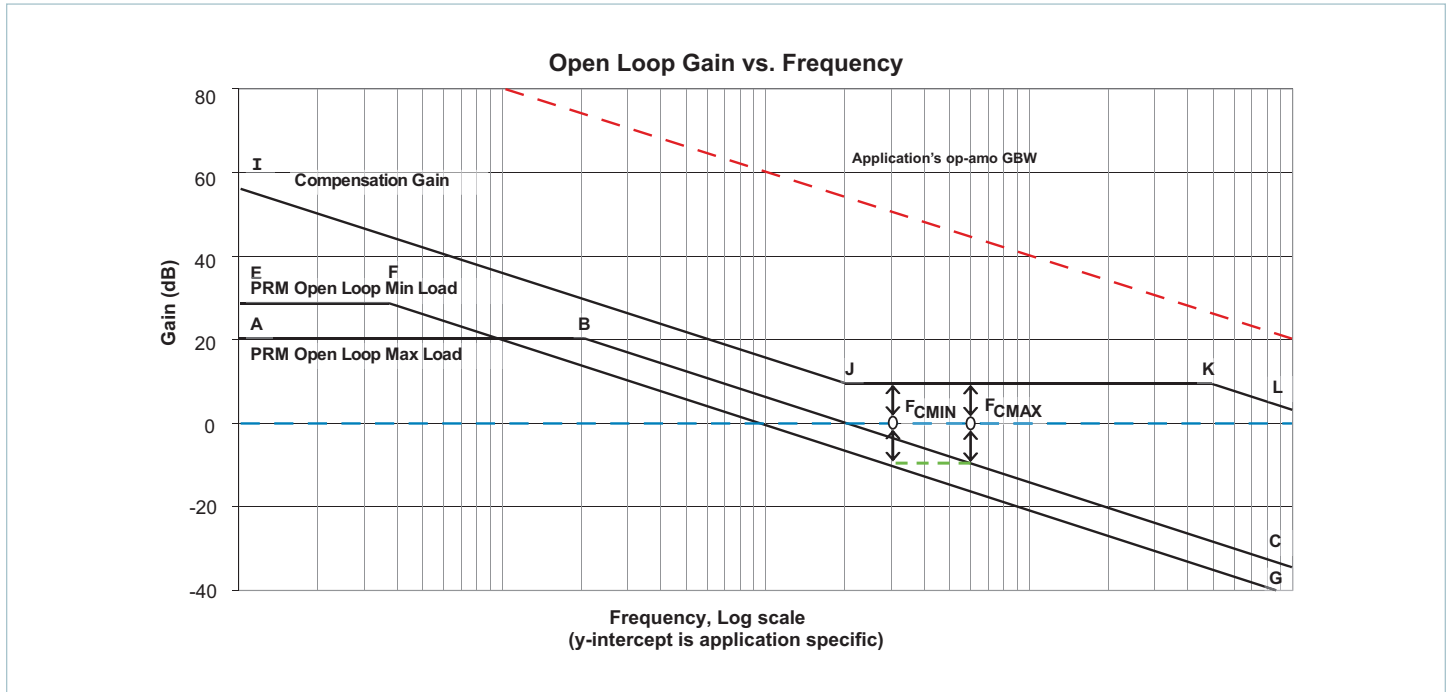
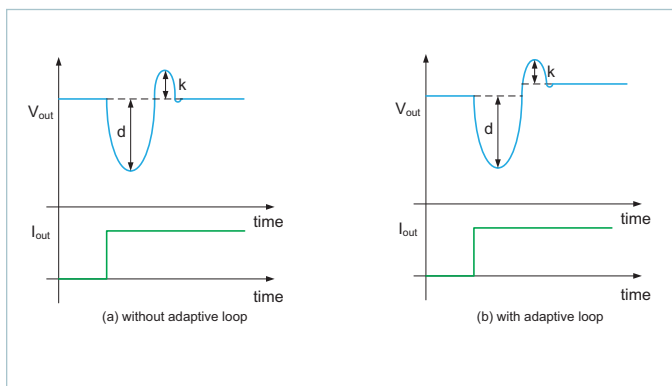

Figure 38 — Reference asymptotic Bode plot for the considered system
Figure 40 — Load step response example and "droop" vs. "kick" (a) without Adaptive Loop; (b) with Adaptive Loop.
Figure 40 illustrates an example of a load step response. Equation (11) can be used to predict the phase margin based on the ratio of the "kick" to "droop" (as defined in Fig. 38).